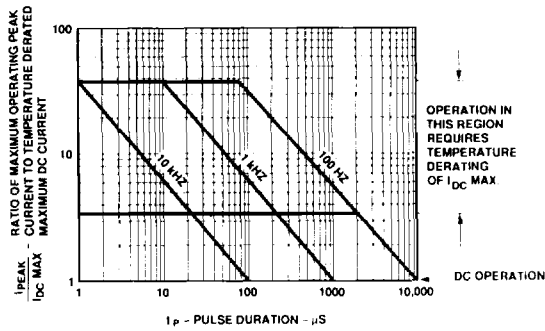

Figure 7. Maximum Allowed Peak Current vs. Pulse Duration - HER, Yellow.
5. See Figure 7 to establish pulsed conditions.